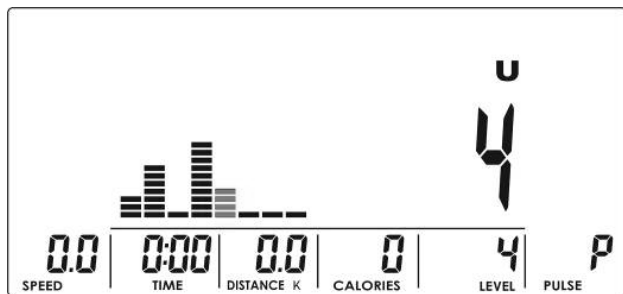

Figure 16
1. Select the user-defined programme (U) and confirm the selection with the MODE button.
2. Set the resistance for each segment with the encoder and confirm each segment with the MODE button (Fig. 16).
**① NOTICE**